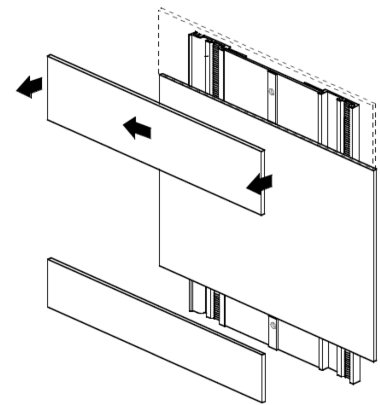

Fig. 4
Step 2. Remove the insert(s) from the chassis (ref Fig. 4) before the sign is attached to the wall surface. This is done by holding/bracing the aluminum chassis with one hand while using your other hand to shift the insert to the LEFT until you hear/feel the disengagement. The insert can then be pulled outward from the chassis. *NOTE: If your sign has multiple inserts, generally only the 1-2 inserts at top and bottom of the sign need to be removed.*